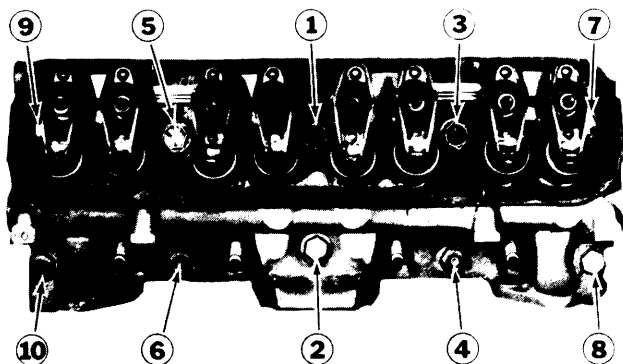

Fig. 1 Cylinder Head Tightening Sequence
**Installation** — 1) Clean all gasket surfaces. Place new gasket on block; install cylinder head. Start all bolts and tighten to specifications. See Fig. 1.